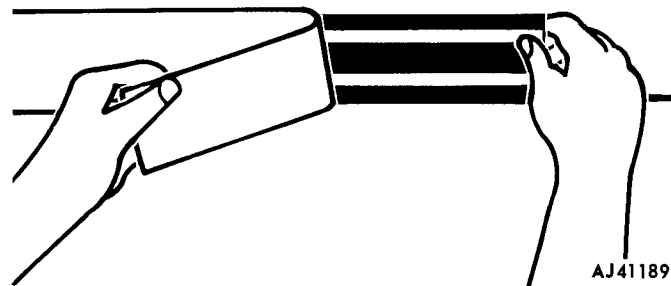

Fig. 20-6 Removing Backing Paper
(10) Remove approximately six inches of paper backing from one end (fig. 20-6).